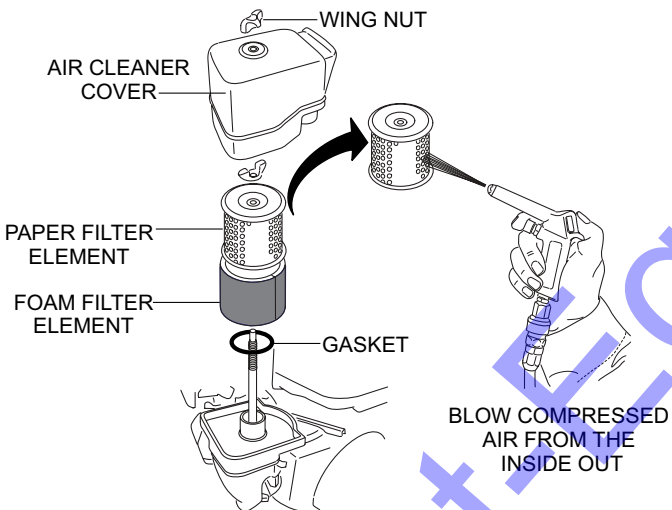
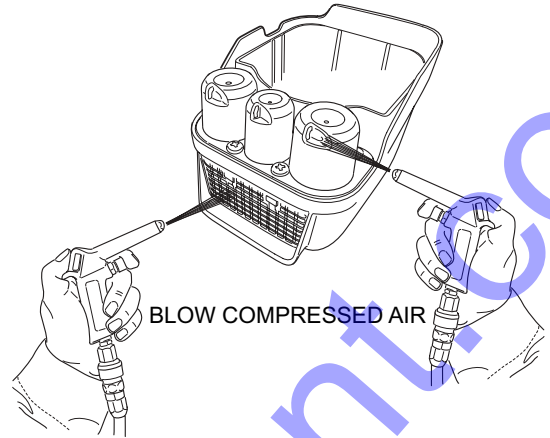

Figure 26. Engine Air Filter
Figure 27. Engine Air Filter Cover
The Honda GX200UT2SCM engine is equipped with a replaceable, high-density paper air cleaner element. See (Figure 26) for air cleaner components.
- Blow compressed air (Figure 27) through the air cleaner cover as shown in (Figure 26). Clean inside of air filter cover with warm, soapy water or nonflammable solvent. Rinse and dry thoroughly.